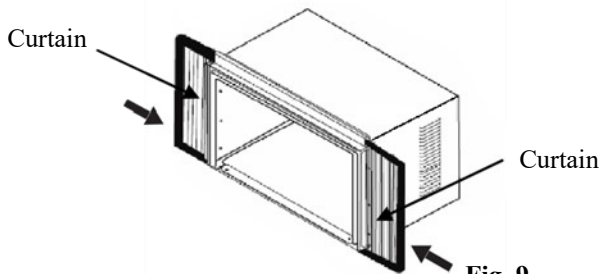

Fig. 9
2. Slide the free end of the curtain into the side panel of the air conditioner. Do this for each side. The flange for securing the curtain into the window sill will be facing the room side when installed (Fig.9).